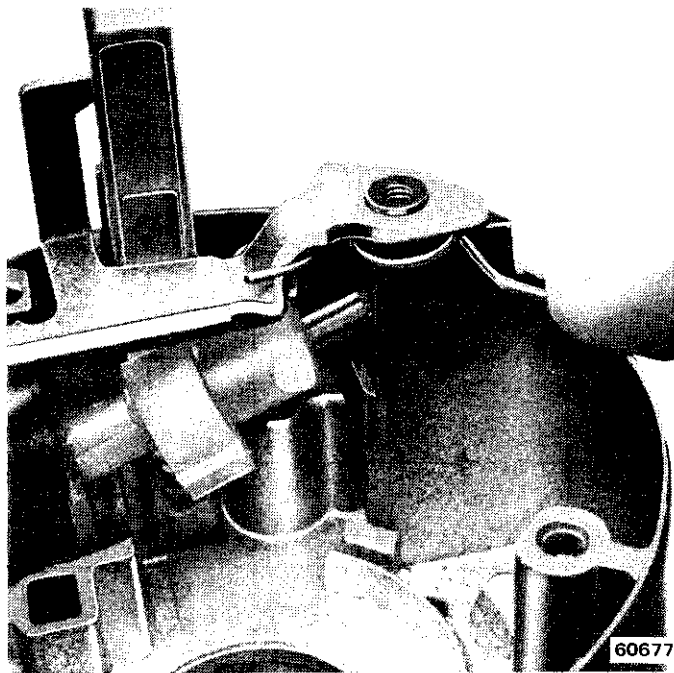

Fig. 2J-22 Securing Key Release Lever Spring
(7) Raise key-release lever slightly and install end of release lever spring between lever and housing boss (fig. 2J-22).